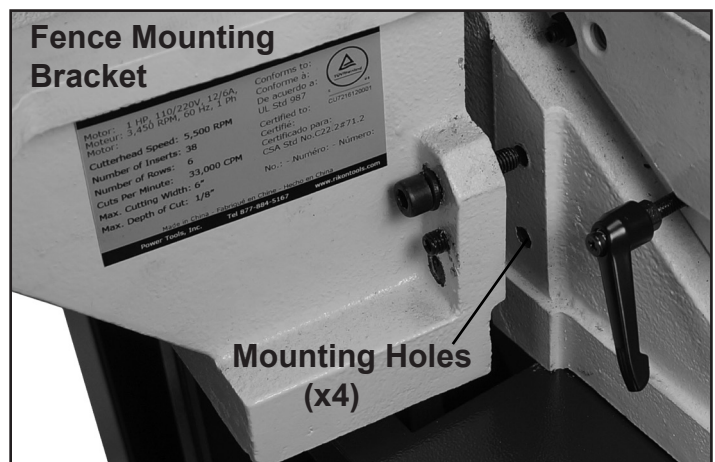

FIG. 7
1. Hold the Fence Mounting Bracket over the cutterhead pulley and align the mounting holes to the jointer base. FIG. 7.